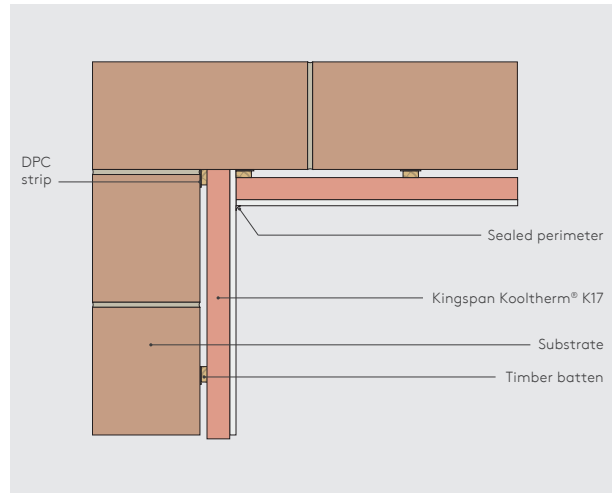

Figure 6 - Internal corner detail
- For external corners (including reveals), the lining should run past the corner and the insulating backing of Kingspan Kooltherm® K17 should be cut back to create a junction (see Figures 6 & 8). Sheets should be cut and rebated to allow a plasterboard / plasterboard joint at the angle (see Figures 6 & 7).
- Ensure sheets are lightly butted and air gaps minimised to reduce the risk of cold bridging (see Figures 6 & 8). Any air gaps should be sealed with flexible sealant or equivalent, or a combination of flexible polyurethane foam and flexible sealant or equivalent.